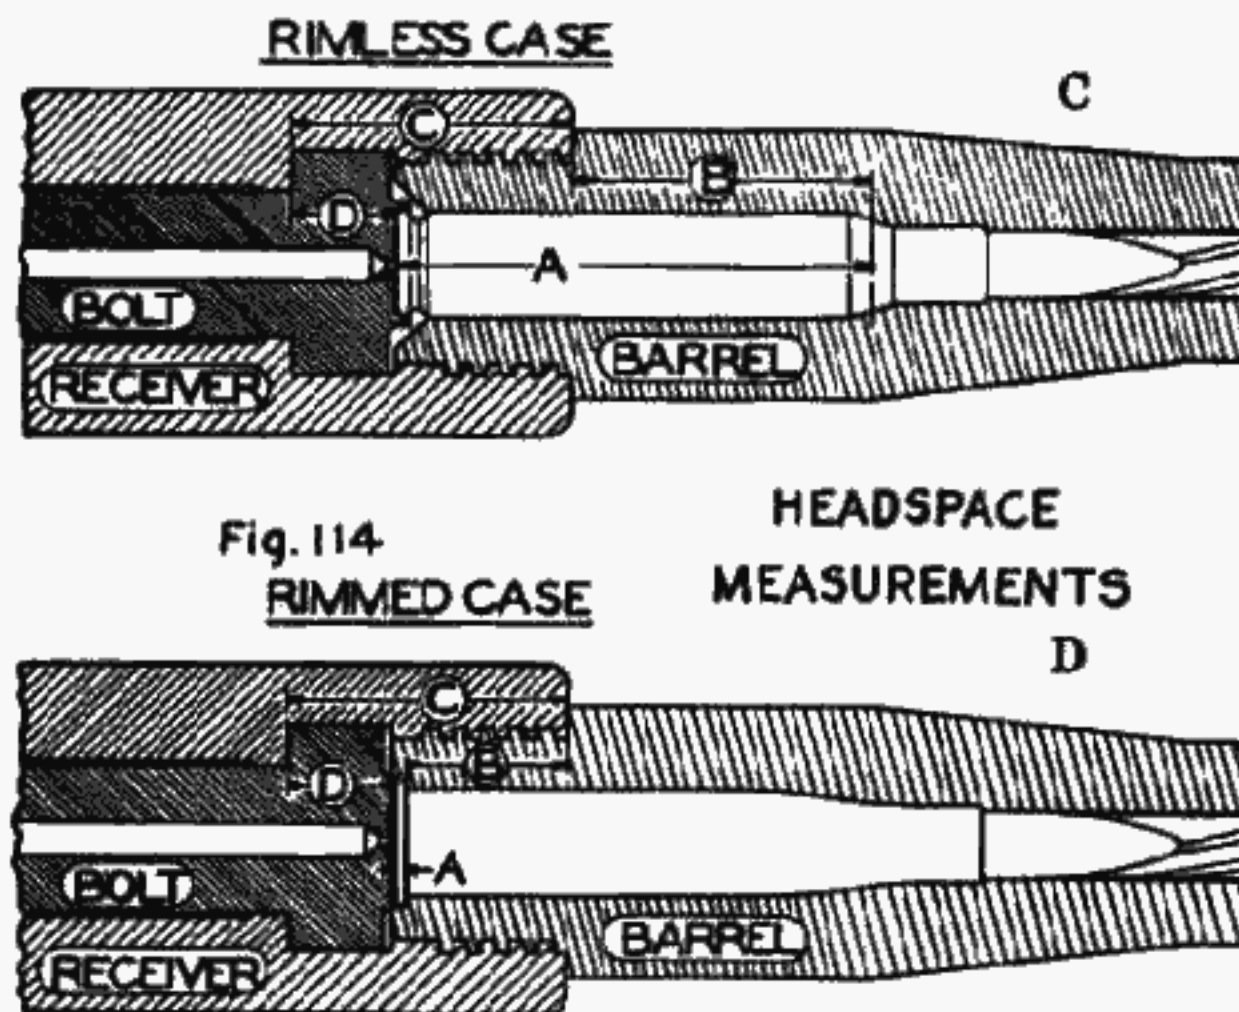

Fig. 114
**HEAD-SPACING:** Here we must explain the very important matter of headspace. It will be obvious to all that the chamber must hold the cartridge back against the face of the bolt, and must support the cartridge and its primer firmly against the blow of the firing pin. Few gunsmiths, however, realize how accurately headspace must be adjusted in order that the rifle shall operate efficiently and safely. When a rimmed cartridge is used, the headspace is the distance from the shoulder of the chamber on which the forward surface of the rim of the cartridge rests to the face of the breech bolt or breech block. See "A," Figures 114-D. This distance must be equal to the length, that is the thickness from front to rear, of the rim of the maximum case. No tolerance should be allowed, and this distance or headspace is cut carefully and gradually with the finishing reamer, after the barrel and breech bolt have been assembled to the receiver, with constant trying of the headspace gage or of a
the neck which holds the head of the case back against the breech block and supports the case and primer against the blow of the firing pin. The headspace is thus that distance from some selected point on the cone of the shoulder to the face of the breech block or breech bolt. See "A," Figure 114-C. Finish chambering is done in the same way as with rimmed cartridge, the receiver and bolt assembled to the barrel, and the finishing reamer being run in until the bolt will just barely close on the smaller or "GO" headspace
The reason why barrels cannot be made to be interchangeable is shown in Figures 114-C and 114-D. To assemble interchangeably it would be necessary that the sum of the measurements B, C, and D be not greater than the difference between the minimum and maximum headspace permissible. But in production no one of these measurements can be assured closer than, say, .003-inch. Thus, if in a given barrel and receiver and bolt, these three measurements were all maximum, or all minimum, we would have an aggregate of .009-inch, whereas in most rifles the maximum permissible difference between max. and min. headspace is about .006-inch. The barrel is therefore always finish chambered after being assembled to the receiver and bolt in connection with the headspace gage.